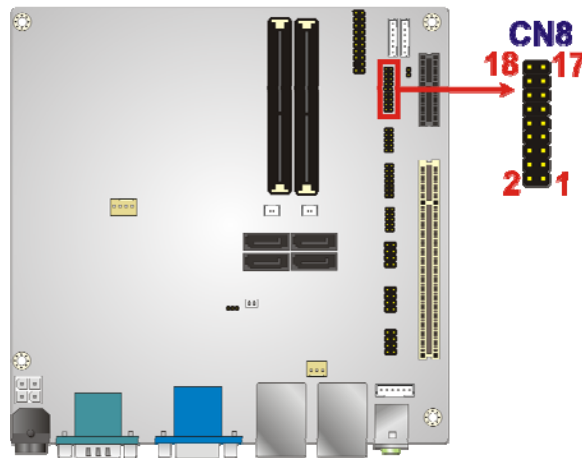

Figure 3-5: Debug Port Connector Location
- CN Location:** See Figure 3-5